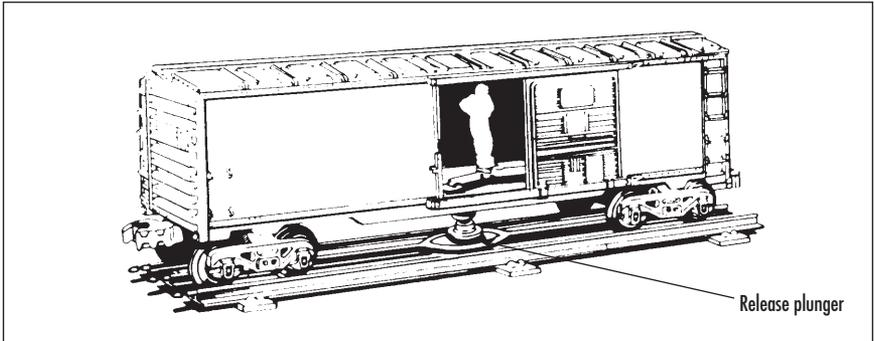

Figure 9. Release plunger location
2. Position the release plunger over the magnet on the Remote-Control Track section. The release plunger is labeled in Figure 9.